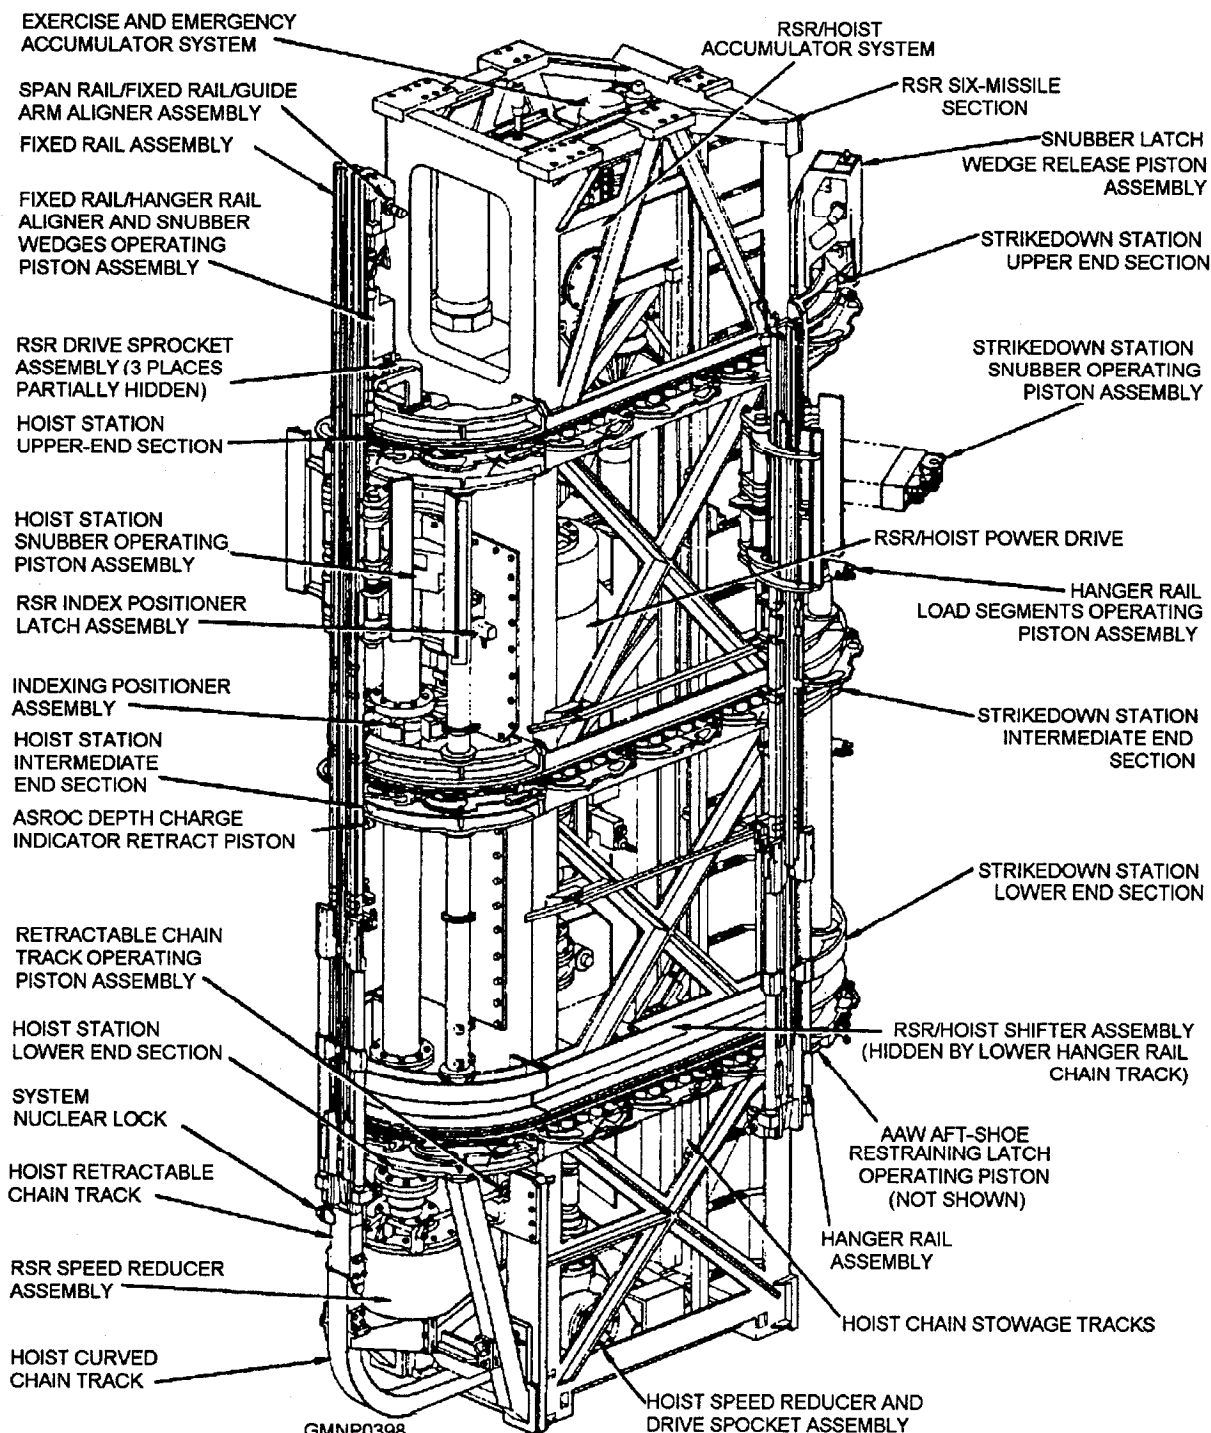

Figure 7-19.—RSR components, general arrangement.
A complete 12-missile RSR (fig. 7-19) is made by joining three basic support structures: a hoist end, a six-missile section, and a strikedown end (assembled in that order). The two end sections are structurally similar and provide space to mount three hanger rail assemblies apiece. The six-missile section is inserted between the end sections and is fastened to the
**FIXED RAIL.**— The fixed rail section is mounted to the top of the RSR's hoist end section. (See figs. 7-19 and 7-22.) This 4-foot rail bridges the gap between a hanger rail and the span rail assembly. All three rails